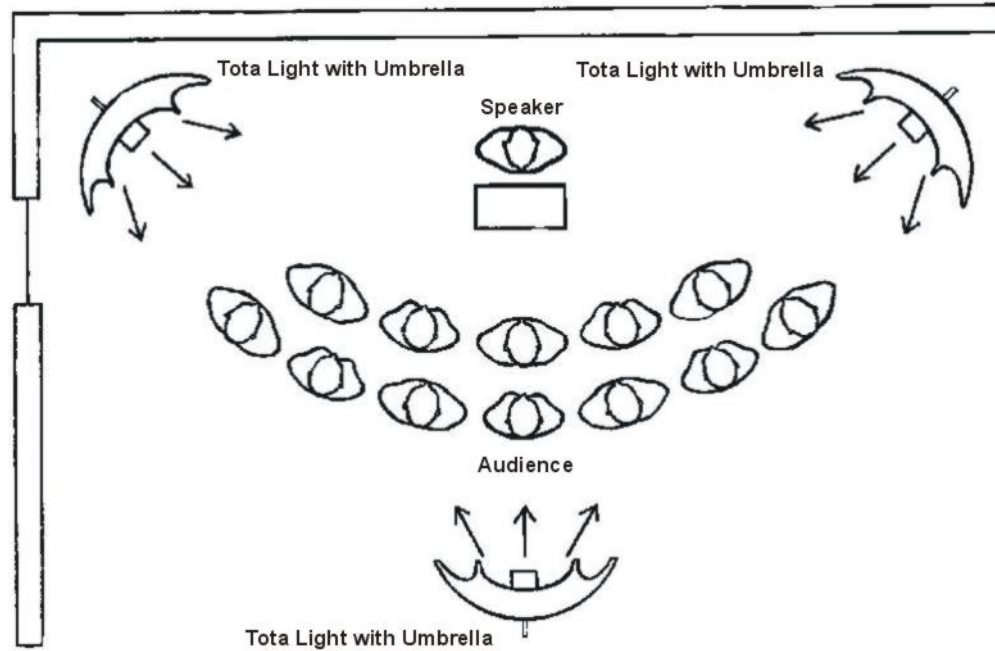

Figure I-19. Lighting a Large Group
(1) If you have to use a quartz light for additional illumination, either boost the color temperature of the quartz light (using a dichroic filter) or white balance the camera using the illumination provided by the quartz light (3200K). Generally, a quartz light, such as a sun gun, is strong enough to "wash out" the greenish tint emitted by the fluorescent baselight. Even if you could turn off the fluorescent lights, you might want to leave them on to have enough baselight. A higher baselight allows you to work with smaller lens' iris openings that increase depth of field, making it easier to focus.
(2) When lighting large groups of people, such as commanders' calls or chaplains' briefings, the easiest and most efficient method of lighting is to establish a general, nondirectional baselight. Simply use two or three portable lights and bounce the illumination emitted by them off the ceiling or walls. If this is not possible, direct the light on the group but diffuse the light with scrims. The most efficient method is to use two or three small, high-intensity lights (such as Tota lights) and diffuse their beam with umbrellas (Figure I-19).